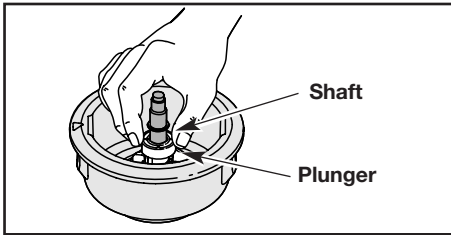

Fig. 19
4. Clean the shaft and the inner surface of the outer spool. To clean the shaft underneath the plunger, press down on the plunger (Fig. 19). Remove any dirt and/or debris from the shaft.